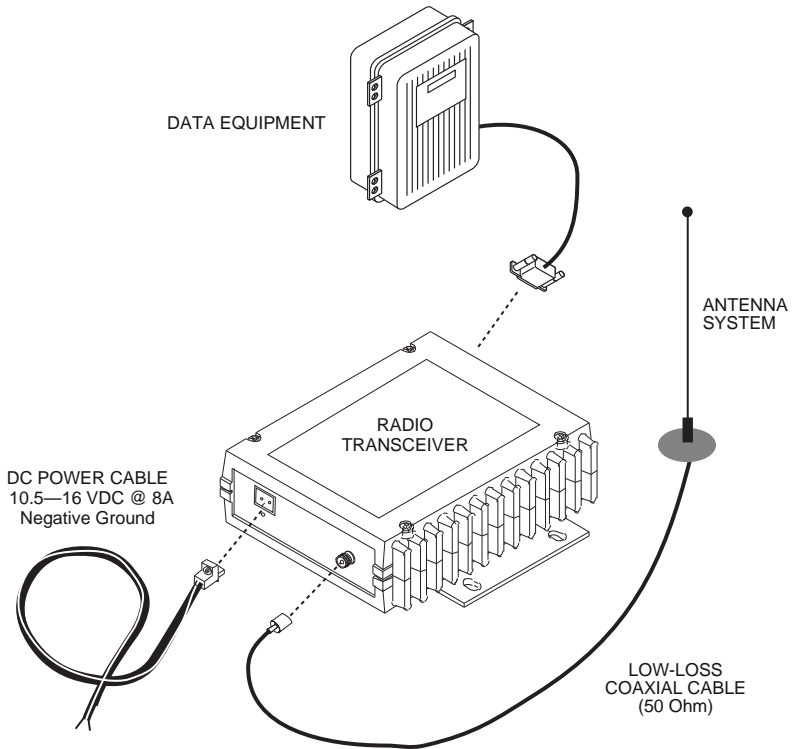

Figure 4. Typical Station Arrangement
Figure 4 shows a typical station arrangement. This is followed by step-by-step procedures for installing the transceiver and making front and rear panel connections.
Below are the basic steps for installing the transceiver. Refer to Figure 4 as necessary to make the cable connections.
4. **Connect primary power to the transceiver.** Power applied must be within 10.5–16 Vdc and capable of continuously providing at least 8 Amperes. A power connector with is provided with each unit (see **Figure 4**).